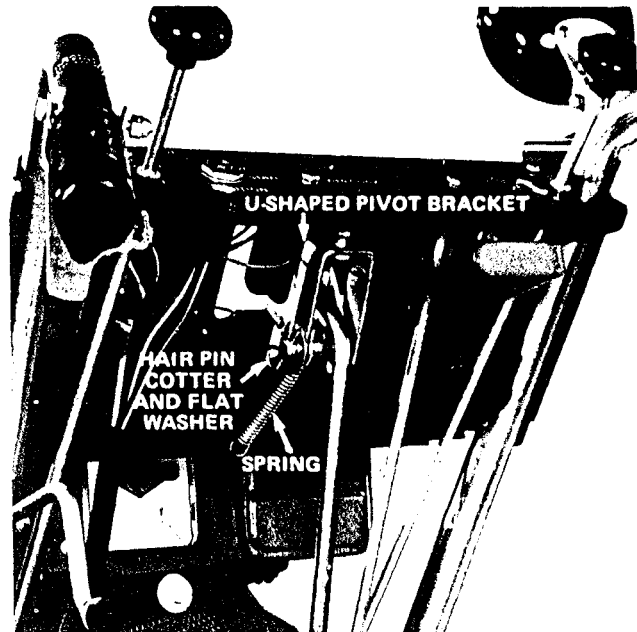

Figure 6
3. Slide flat washer onto clevis pin; then install hair pin cotter through clevis pin so all parts are retained in place (Fig. 6).
5. Install end of tension spring into hole in control panel (Fig. 6).